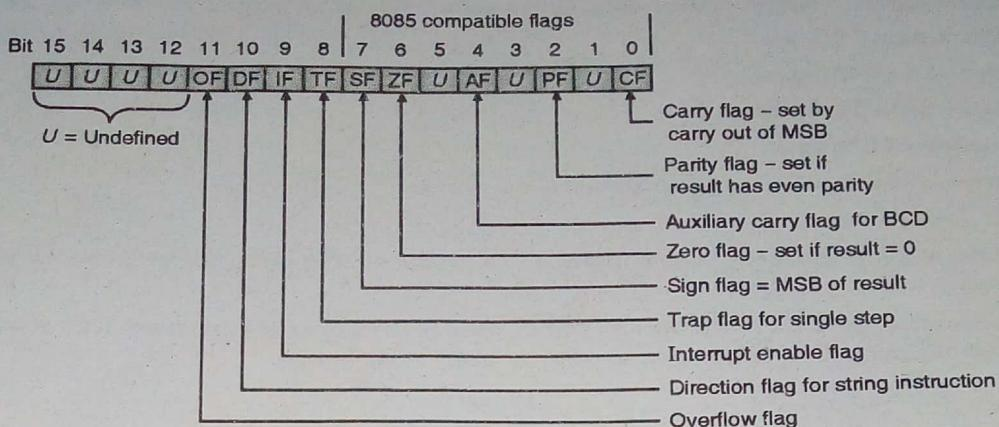

Fig. 2.2 : 8086 flag register format
A flag can control certain operations of EU. Fig. 2.2 shows the details of the 16 bit flag register of 8086 CPU. As shown, it consists of nine active flags out of sixteen. The remaining seven flags marked "U" are undefined flags.
As shown in Fig. 2.2, the execution unit (EU) has four general purpose 16-bit registers. Each one of them can be used for temporary storage of 8 bit data, 16-bit data or 32-bit data. 8-bit Registers - AH, AL, BH, BL, CH, CL, DH, DL. Any of these registers can be used as an 8-bit operand. 16-bit Registers - AX, BX, CX, DX, SI, DI, SP, BP. Any of these registers can be used as a 16-bit operand. 32-bit Registers - DX : AX together can be used for 32-bit operand. These registers can be used for general purpose computing when their other specialized functions do not interfere.